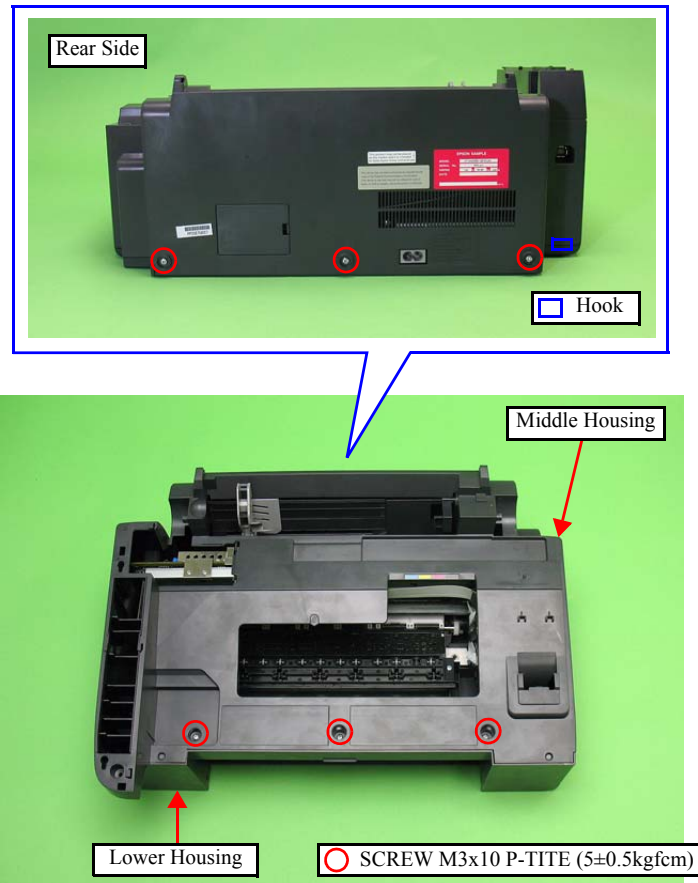

Figure 4-14. Removing the Middle Housing (1)
2. Release the two hooks on the left, two hooks on the right, and the hook on the rear (see Fig.4-14), then remove the Middle Housing from the Lower Housing.